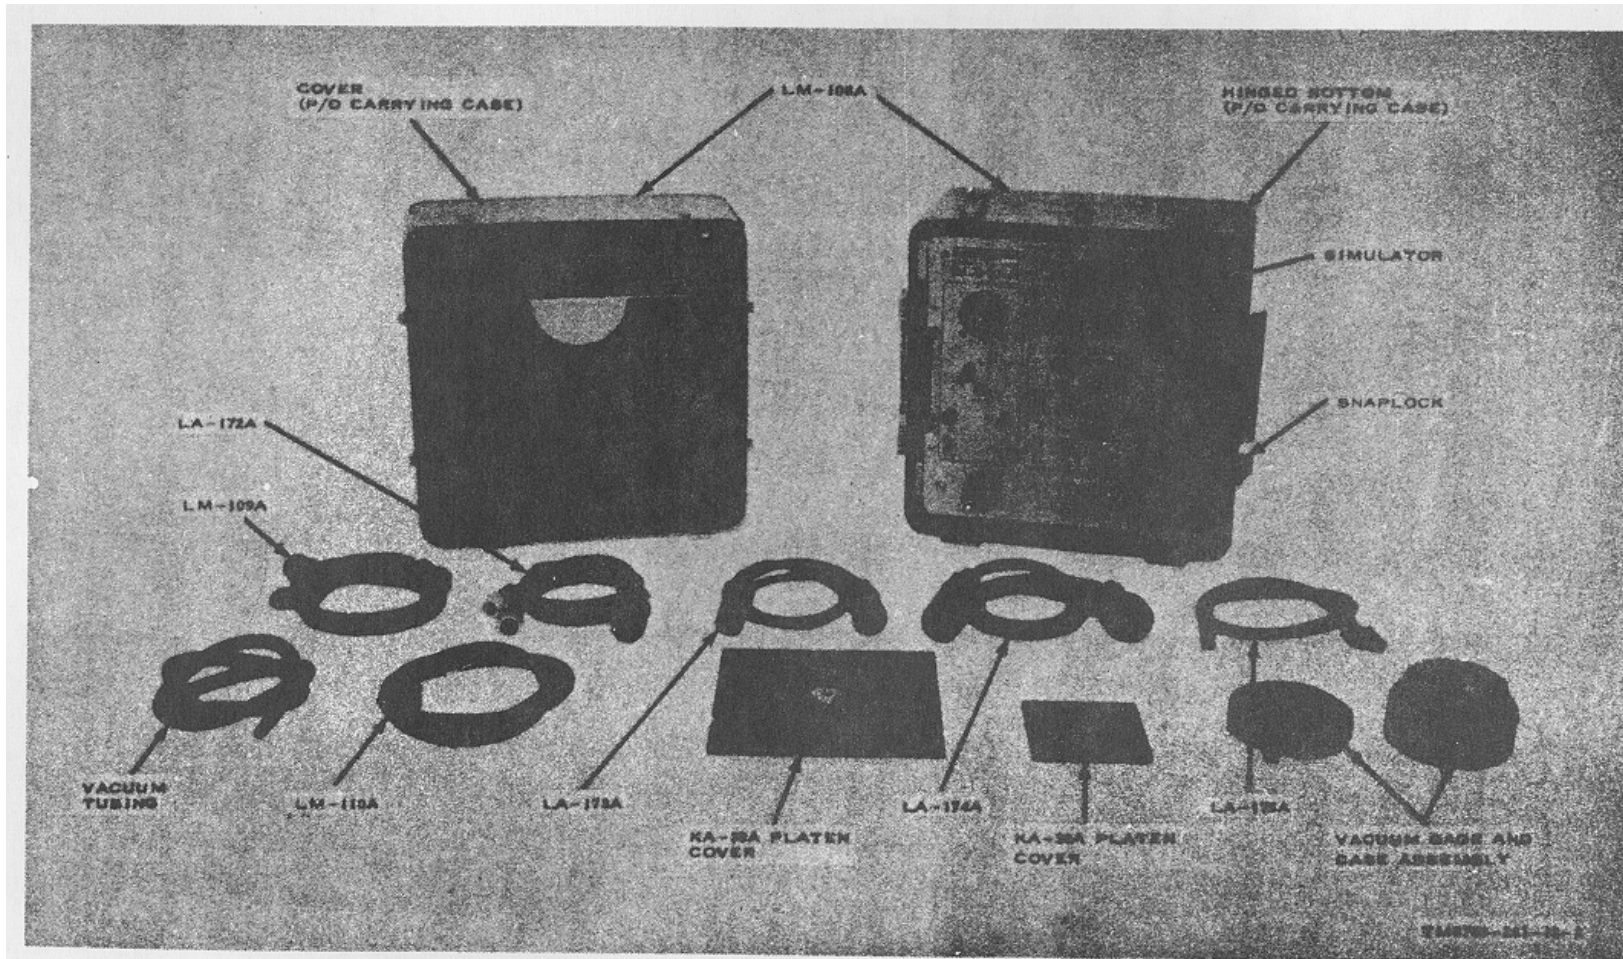

Figure 2. Simulator, Control System, Camera LS-36A (less running spares); part of Test System, Photographic Surveillance LS-34A.
- (b) *Simulator, Control System, Camera LS-36A* (fig. 2). The LS-36A is used to simulate the ACCS when Camera, Still Picture KA39A is being tested. Test Set, Vacuum Regulator Assembly LA185A (stored in the cover of the carrying case of the LS-36A) is used to check the operation of the camera vacuum system by measuring the vacuum at the platen.
- (2) *Simulator, Control System, Camera LS-36A* (fig. 2).